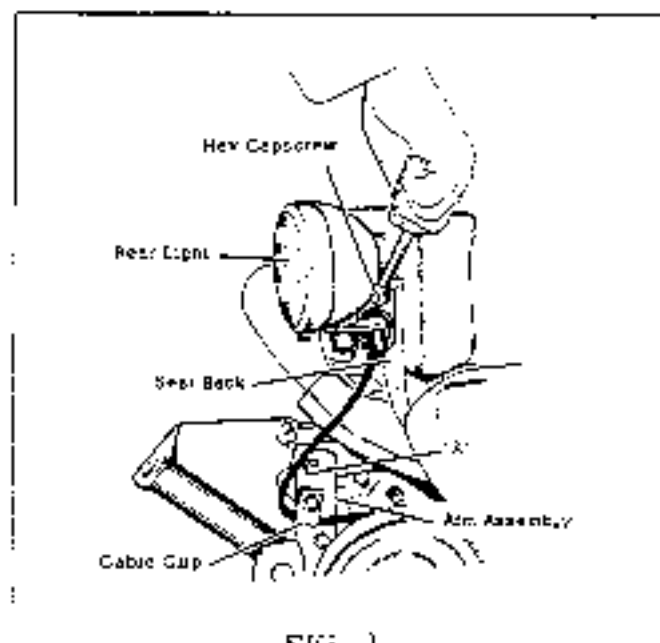

FIG. 1
3. Remove the rear light from the tractor seat back by removing the hex capscrew holding the light mounting bracket to the seat back. Remove the cable clip from the R.H. arm assembly as shown in Fig. 1. This clip is held in place by a hex capscrew, flat washer, lockwasher and hex nut.